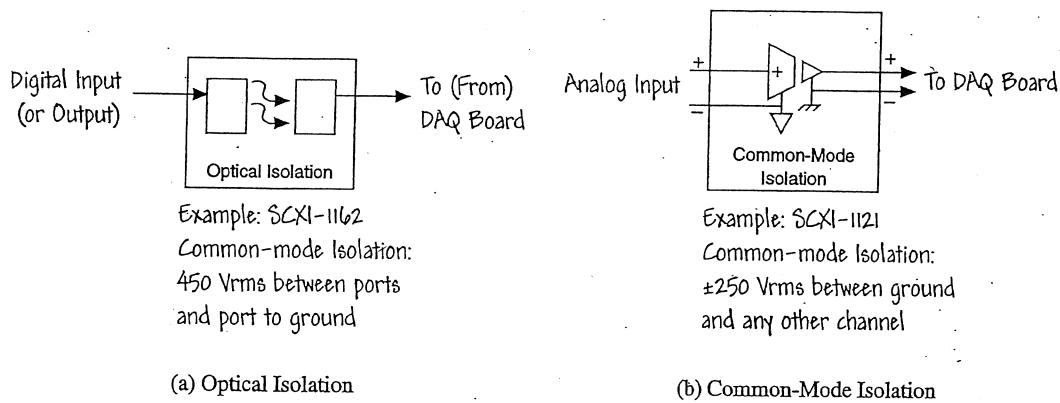

FIGURE 8.15
- Isolation: Another common use for signal conditioning is to isolate the transducer signals from the computer. For example, when the signal being monitored contains large voltage spikes that could damage a computer or harm a person, you should not connect the signal directly to a DAQ board without some type of isolation. Figure 8.15 shows two common methods for isolating signals.